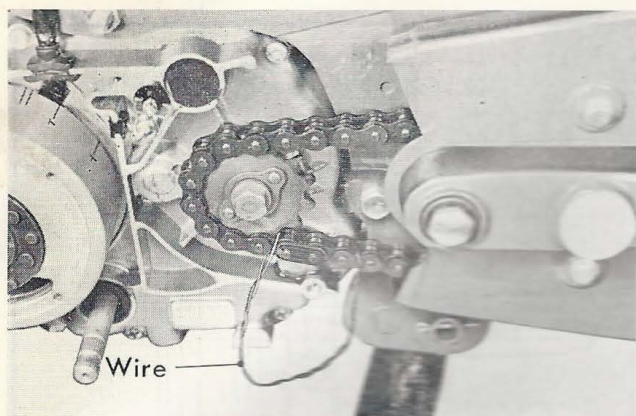

Figure 3-6. Removing the drive chain
- (8) Disconnect the clutch cable (S50, S65)
- (9) Remove kick arm and gear change pedal
- (10) Remove the left crankcase cover and the electrical leads.
- (11) Rotate the rear wheel to position the chain joint as shown in Fig. 3-6 and disconnect the drive chain.